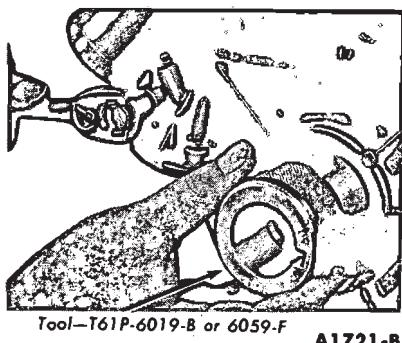

FIG. 37—Aligning Cylinder Front Cover
10. Coat the threads of the attaching screws with oil resistant sealer and install the screws. While pushing in on the alignment tool, tighten the oil pan to cover attaching screws to specifications (Fig. 37). Tighten the cover to block attaching screws to specifications. Remove the pilot.